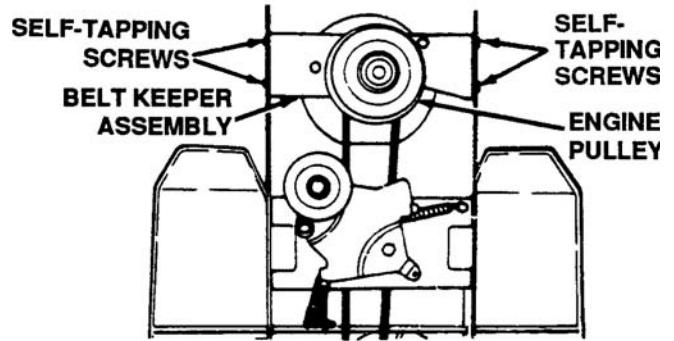

Figure 7-32. Belt Keeper Assembly
- d. Remove the four self-tapping screws which hold the belt keeper assembly to the frame at the engine pulley. Push the belt keeper assembly forward, out of the way. See Figure 7-32.